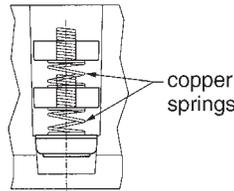

Figure 3B
B) 10-15 lb-ft universal mount. Reassemble disc pack by installing a friction disc, stationary disc (spring side first) second friction disc and second stationary disc (spring side first). See Figure 3B.